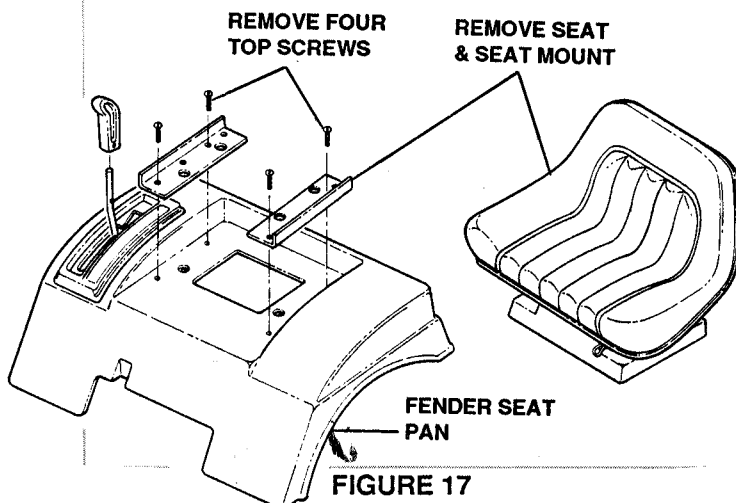

FIGURE 17
- **TRANSAXLE:** Remove rear panel or fender seat pan to gain access to transaxle. See Figure 17.
1. Remove six (6) screws.